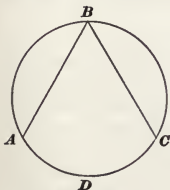

FIG. 43.
72. An **inscribed angle** is one whose vertex lies on the circumference of a circle and whose sides are chords. It is measured by one-half the intercepted arc. Thus, in Fig. 43, ABC is an inscribed angle, and it is measured by one-half the arc ADC .
EXAMPLE.—If in Fig. 43, the arc $ADC = \frac{2}{3}$ of the circumference, what is the measurement of the inscribed angle ABC ?